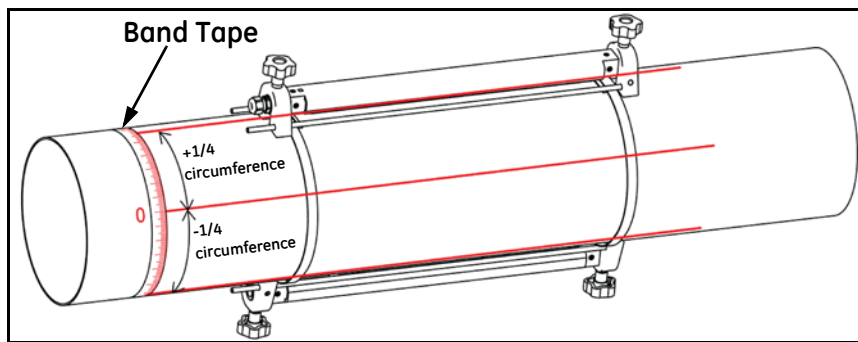

Figure 19: 1 Traverse Installation with 2 Fixtures
3. Install two mounting straps on the pipe about 12 in. (30 cm) apart (see *Figure 19* below).